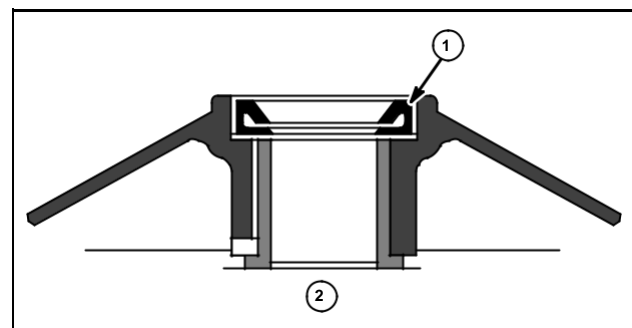

Fig. 43
Install seal with sealing lip (1) toward engine side of gear case cover (2) until metal case of seal is flush with gear case cover, Fig. 43.